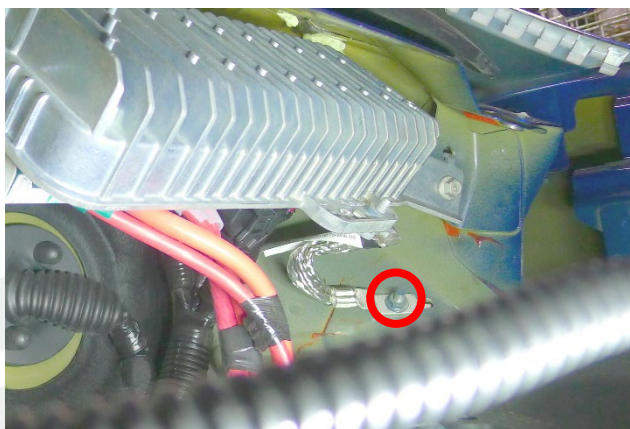

Figure 1
- b. Remove the nut that attaches the battery controller module ground strap to the body, and then remove the strap from the body (Figure 1).